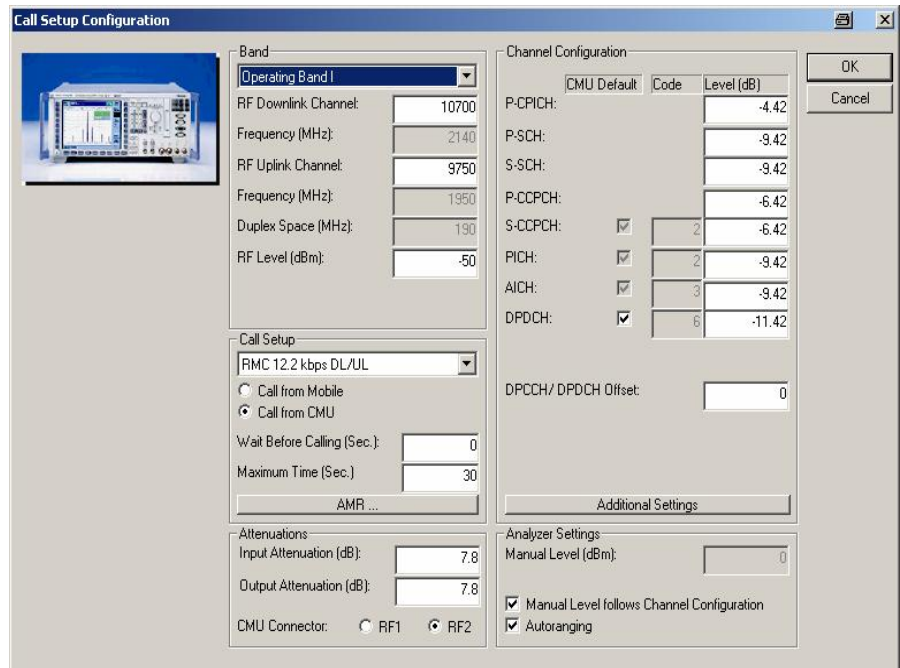

Fig. 6.5\_8: Call setup configuration
- 5) Enter the path loss you measured between UE and CMU200 as *Input Attenuation* and *Output Attenuation* (lower left in Fig. 6.5\_8).